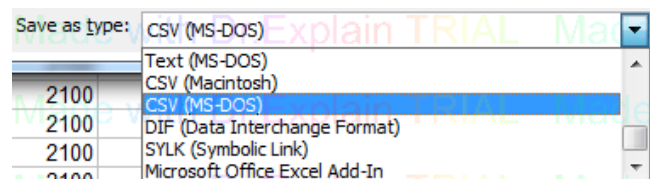

Figure 2
10. Once Complete, click "**Save As**" a "**.CSV**" file which is plain text with comma separated variables (Figure 2)